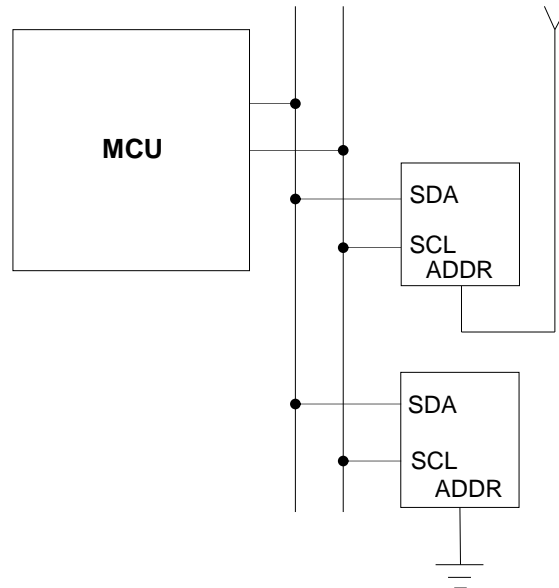

Figure 1. Multiple KX023 I²C Connection
Transactions on the I²C bus begin after the Master transmits a start condition (S), which is defined as a high-to-low transition on the data line while the SCL line is held high. The bus is considered busy after this condition. The next byte of data transmitted after the start condition contains the Slave Address (SAD) in the seven MSBs (Most Significant Bits), and the LSB (Least Significant Bit) tells whether the Master will be receiving data '1' from the Slave or transmitting data '0' to the Slave. When a Slave Address is sent, each device on the bus compares the seven MSBs with its internally stored address. If they match, the device considers itself addressed by the Master. The KX023's Slave Address is comprised of a programmable part and a fixed part, which allows for connection of multiple KX023's to the same I²C bus. The Slave Address associated with the KX023 is 001111X, where the programmable bit, X, is determined by the assignment of ADDR (pin 7) to GND or IO_Vdd. Figure 1 above shows how two KX023's would be implemented on an I²C bus.